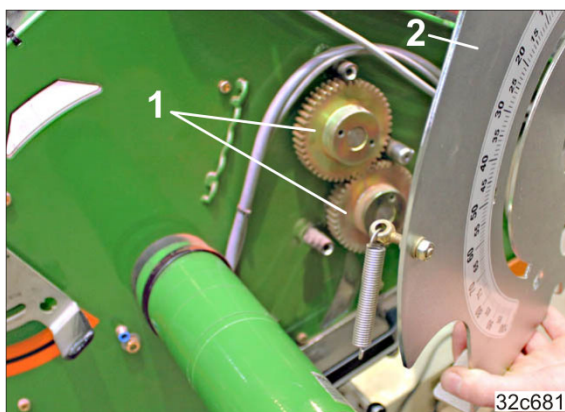

Fig. 286
7. Use compressed air to remove dust and dirt from the star wheels (Fig. 286/1) behind the scale area (Fig. 286/2).